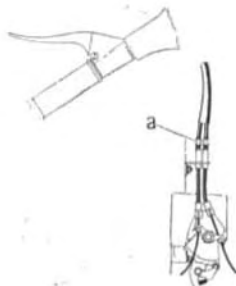

Fig. 112 • Gear shifter control adjustment.
- Tension either control cable by screwing back the respective adjuster screw (see Fig. 112) with an open ended spanner.